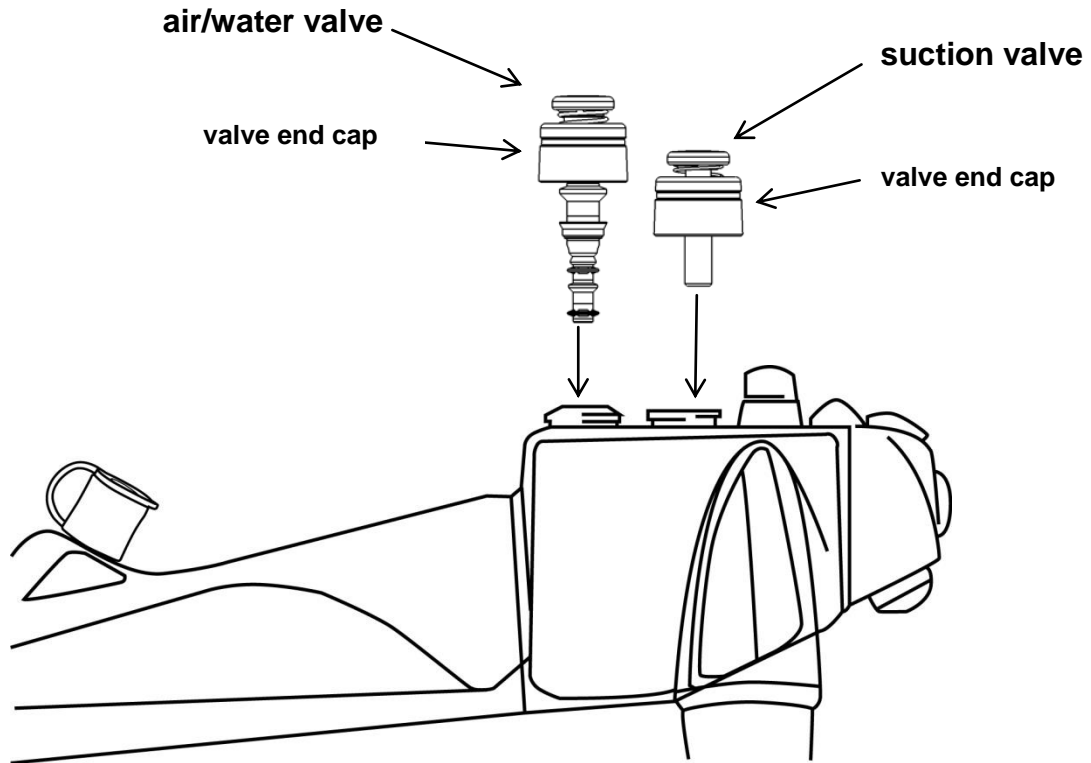

Figure 1
4. Insert the suction valve into suction cylinder of an Olympus endoscope (see Figure 1 below).
9. Insert the air/water valve into the air/water cylinder of an Olympus endoscope (see Figure 1 below).